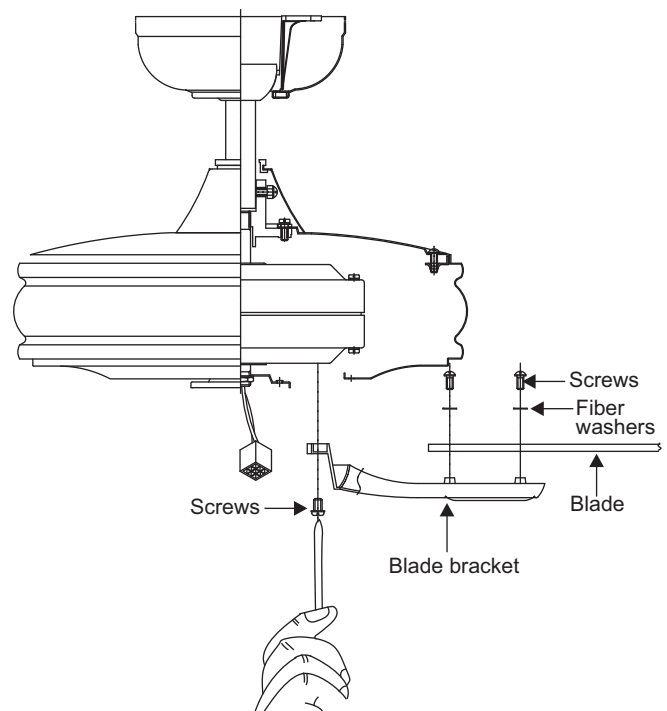

Figure 13
Step 1. Attach the blade to the blade bracket using the screws and fiber washers as shown in Figure 13. Start screw into bracket. Repeat for the two remaining screws.
Step 3. Fasten blade assembly to motor using the screws supplied. (Fig. 13)